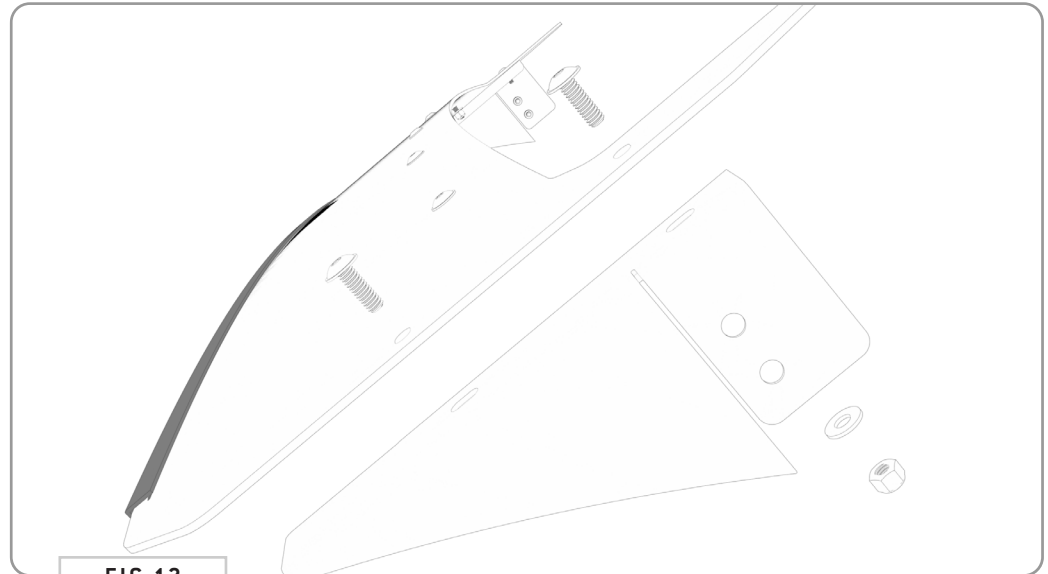

FIG 12
4.3 Driver and Passenger Side Fairing Brackets: Attach the **Driver and Passenger Side Fairing Brackets** to the Assembly using **1/4-20 x 0.75 Flanged Button Head Screws, Flat Washers and Nylon Locknuts (FIG 12)**.